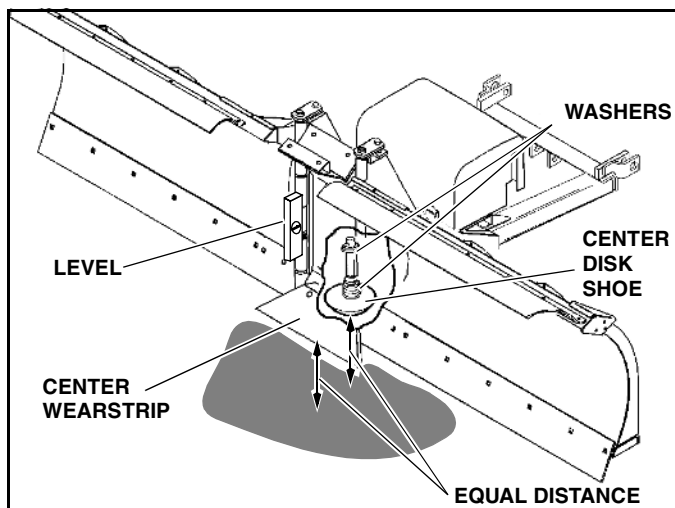

Figure 2-16
5. Determine whether the center disk shoe or the center wearstrip is off the ground and measure the amount that it is off the ground. (See Figure 2-16).